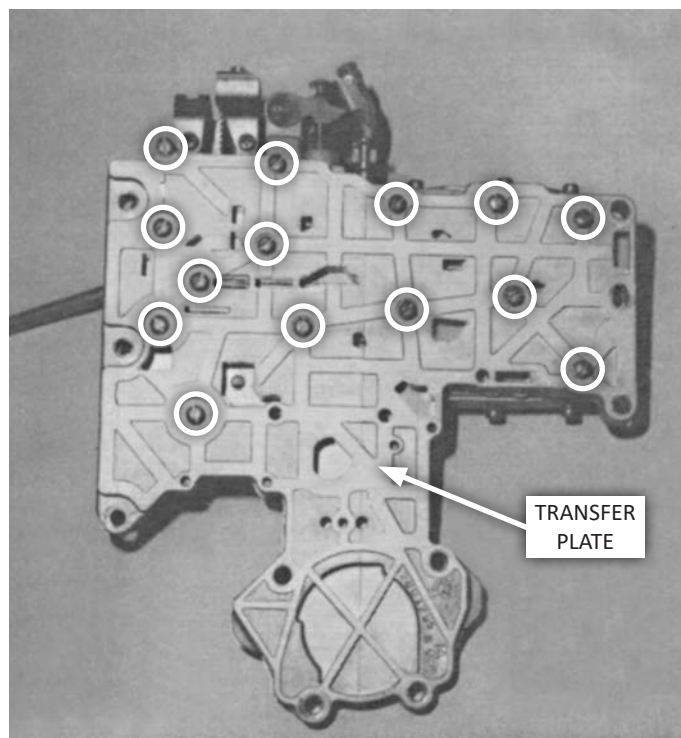
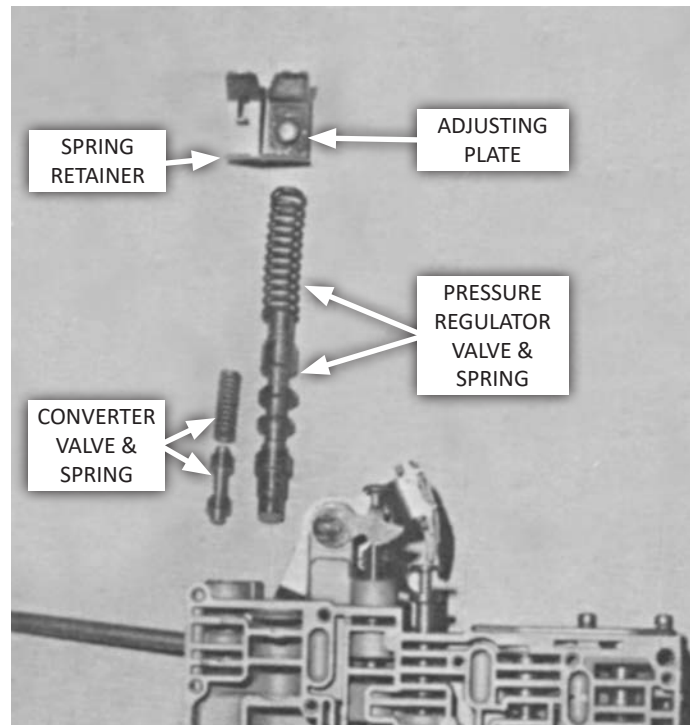

FIG. 5
FIG. 8
Remove the pressure regulator and converter valves (Fig. 8), and lay them next to their respective springs.
6. **Set the valve body on the bench** with the bottom side up and the selector lever assembly in the top left corner (Fig. 5). Note the valve body's three main components:
7. **Remove the transfer plate** (14 screws, Fig. 5).
11. Install the pressure regulator and converter valves into their bores (Fig. 8). Both valves should move freely in their bores. Remove any burrs that may cause the valves to stick or bind. Set the casting aside.
14. Carefully lay the transfer plate assembly atop the valve body casting, and install the 14 valve body screws (Fig. 5). First run the screws down finger tight, then tighten to **35 in-lbs**. Install the pressure regulator and converter valve springs (Fig. 8).